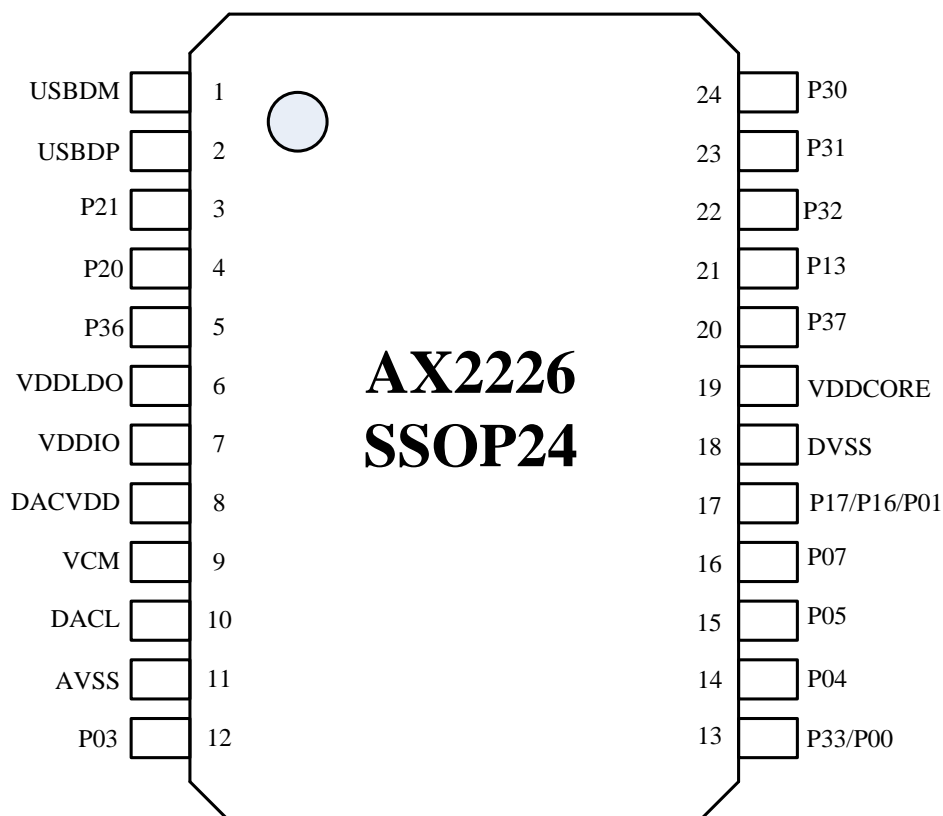

Figure 2-2 Pin Assignment for SSOP24
*Figure 2-2* shows the pin assignments of SSOP24 package